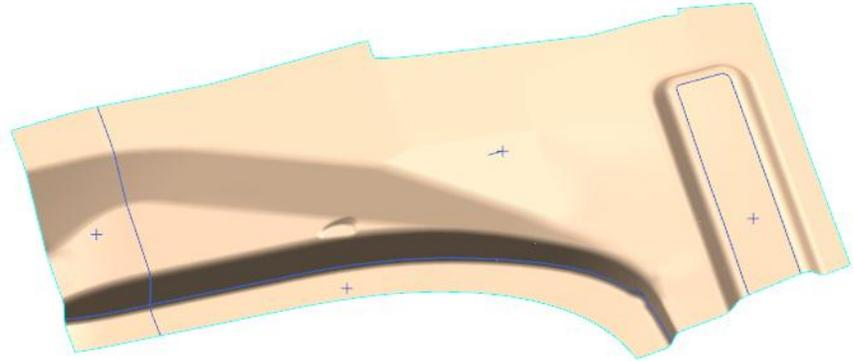

Figure 10–2
1. Open **MULTI_TRANSITION_MAN_A.prt**. The model displays as shown in Figure 10–2.